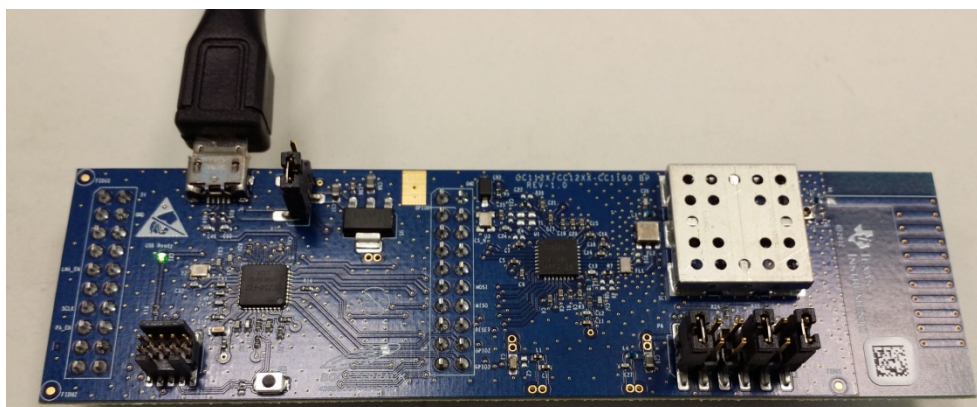

Figure 7. CC112x-CC1190 BP With USB Cable
1. Connect the USB cable from the PC to the J4 of the BoosterPack as shown in Figure 7.